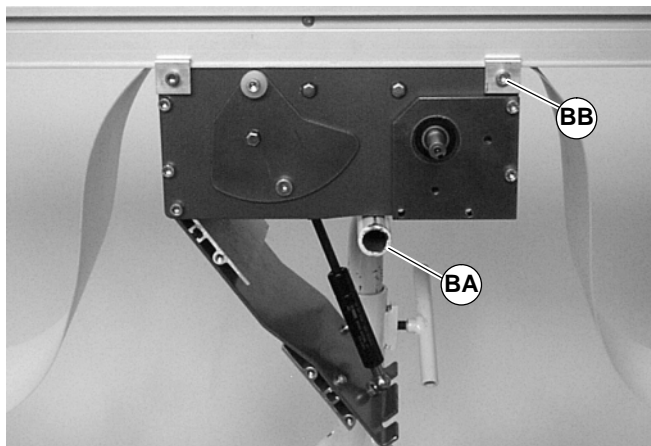

Figure 26
1. Place temporary support (BA of Figure 26) underneath the drive module.
5. Install the drive module onto the conveyor and attach clamps (BB of Figure 26) in each corner. Tighten screws to 9 Nm.